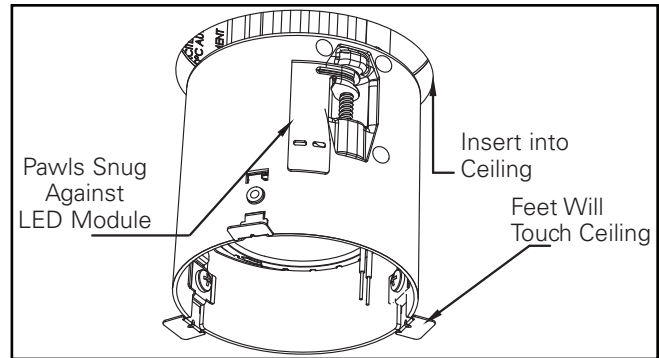

Figure 3
6. Make certain pawls are snug against the LED module prior to inserting the module into the ceiling (see figure 3).